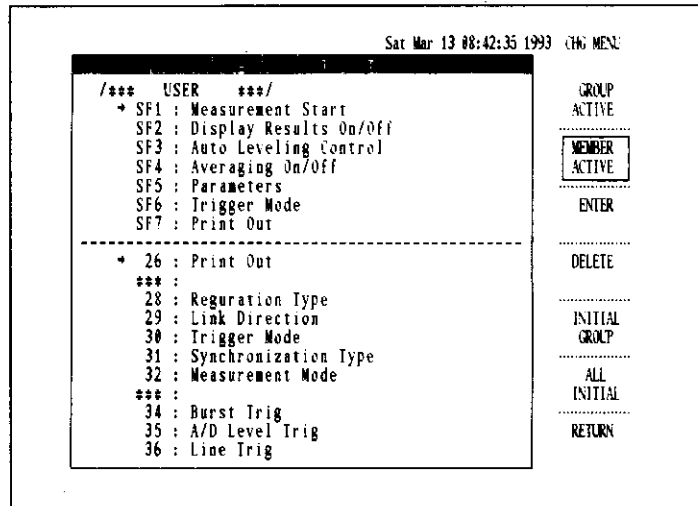

Figure 3-10 Definition Completion Screen
- ④ Using the data knob, set "→" to the soft key No.1 of USER.
- ⑤ Press the MEMBER ACTIVE on the screen and then press the SHIFT and 6 to call the option function.
- ⑥ Using the data knob, set "→" to "MEASUREMENT START" and press the ENTER.
- ⑦ Press the GROUP ACTIVE and then press the MEMBER ACTIVE while setting "→" to SF2. Press the ENTER while setting "→" to "Display Results on/off".
- ⑧ Use the same procedure for definition of SF2 to SF7. (see Figure 3-10)